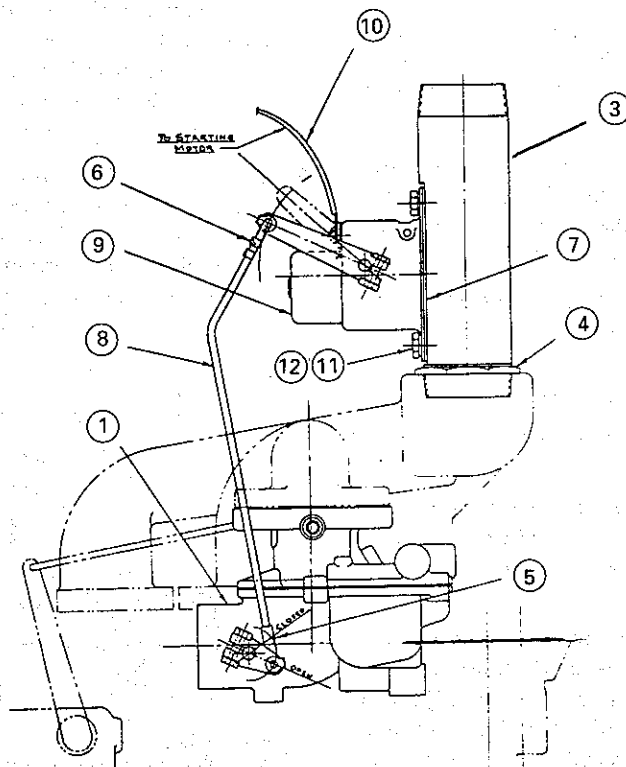

Fig. 1
- c. Pull up on **control rod** (8) Fig. 1, so that the **carburetor choke lever** is in the upper, or **closed position**. Retain rod in this position.
- d. Rotate **automatic choke lever** until hole at end of lever lines up with bent end of control rod. (Rod pulled up in closed choke position). Mount control rod to lever by means of **retaining clip** (6).